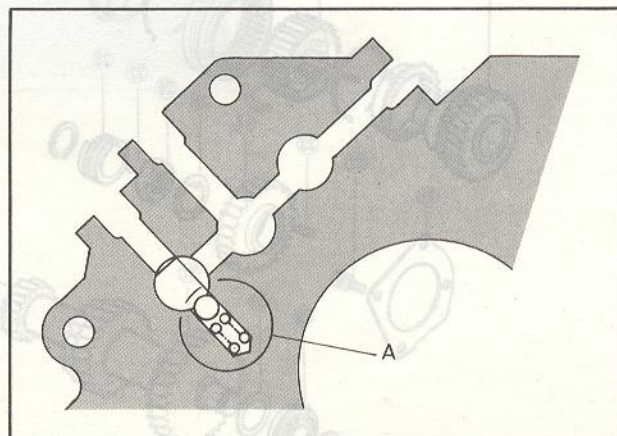

Fig. 7C-24 Reverse shift detent ball and spring
20. Position the spring and detent ball in the (A) of the bearing housing, as shown in Fig. 7C-24.